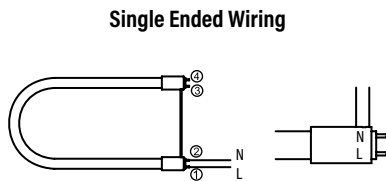
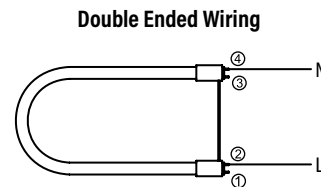

Fig. 3 One Single-Ended: Leads 1 connected to L; leads 2 connected to N Leads 1 and 2 at the end of the lamp holder with LN.
Fig. 4 Double-Ended: Leads 1 or 2 connected to L; leads 3 or 4 connected to N.
3. Rewire the fixture to be Single Ended (Fig. 3)/Double Ended power (Fig. 4).